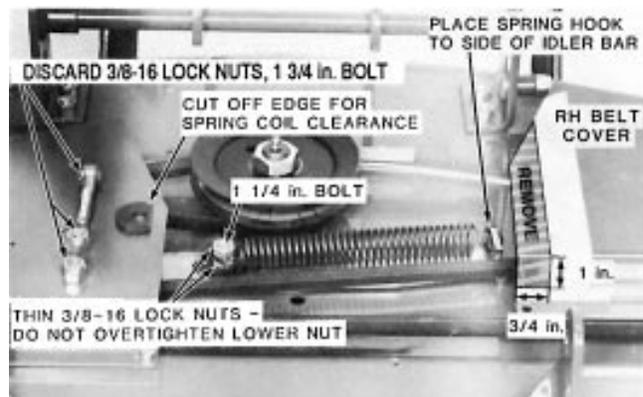

Figure 3
1. Remove the 3/8"-16 x 1"-3/4 bolt and (2) 3/8"-16 locknuts that secure the idler spring from the mower idler bar and discard. (Fig. 3).
2. Cut off the edge of the plastic washer located under the lower nut (Fig. 3).
3. Install the idler spring using the 3/8"-16 x 1-1/4" bolt, (2) thin 3/8"-16 locknuts, and the cut washer (Fig. 3).
4. Remove the right-hand belt cover (Fig. 3).
5. Measure and remove the area of the belt cover shown in Fig. 3.